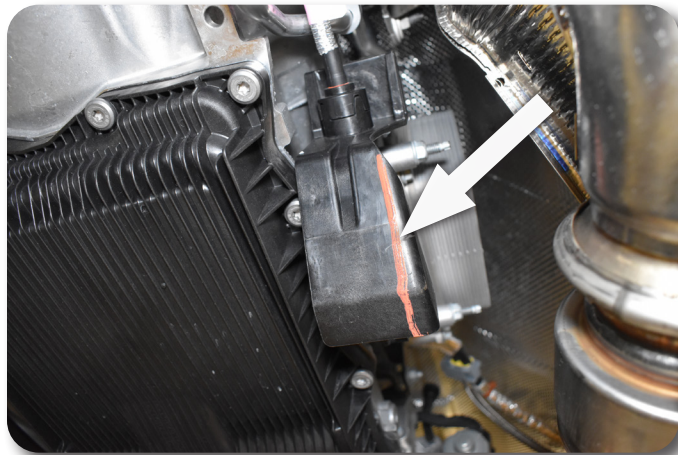

Figure 41
71. Check clearance of the transmission shift linkage splash guard to the drive shaft. Trim guard as necessary for driveshaft clearance Fig. 41